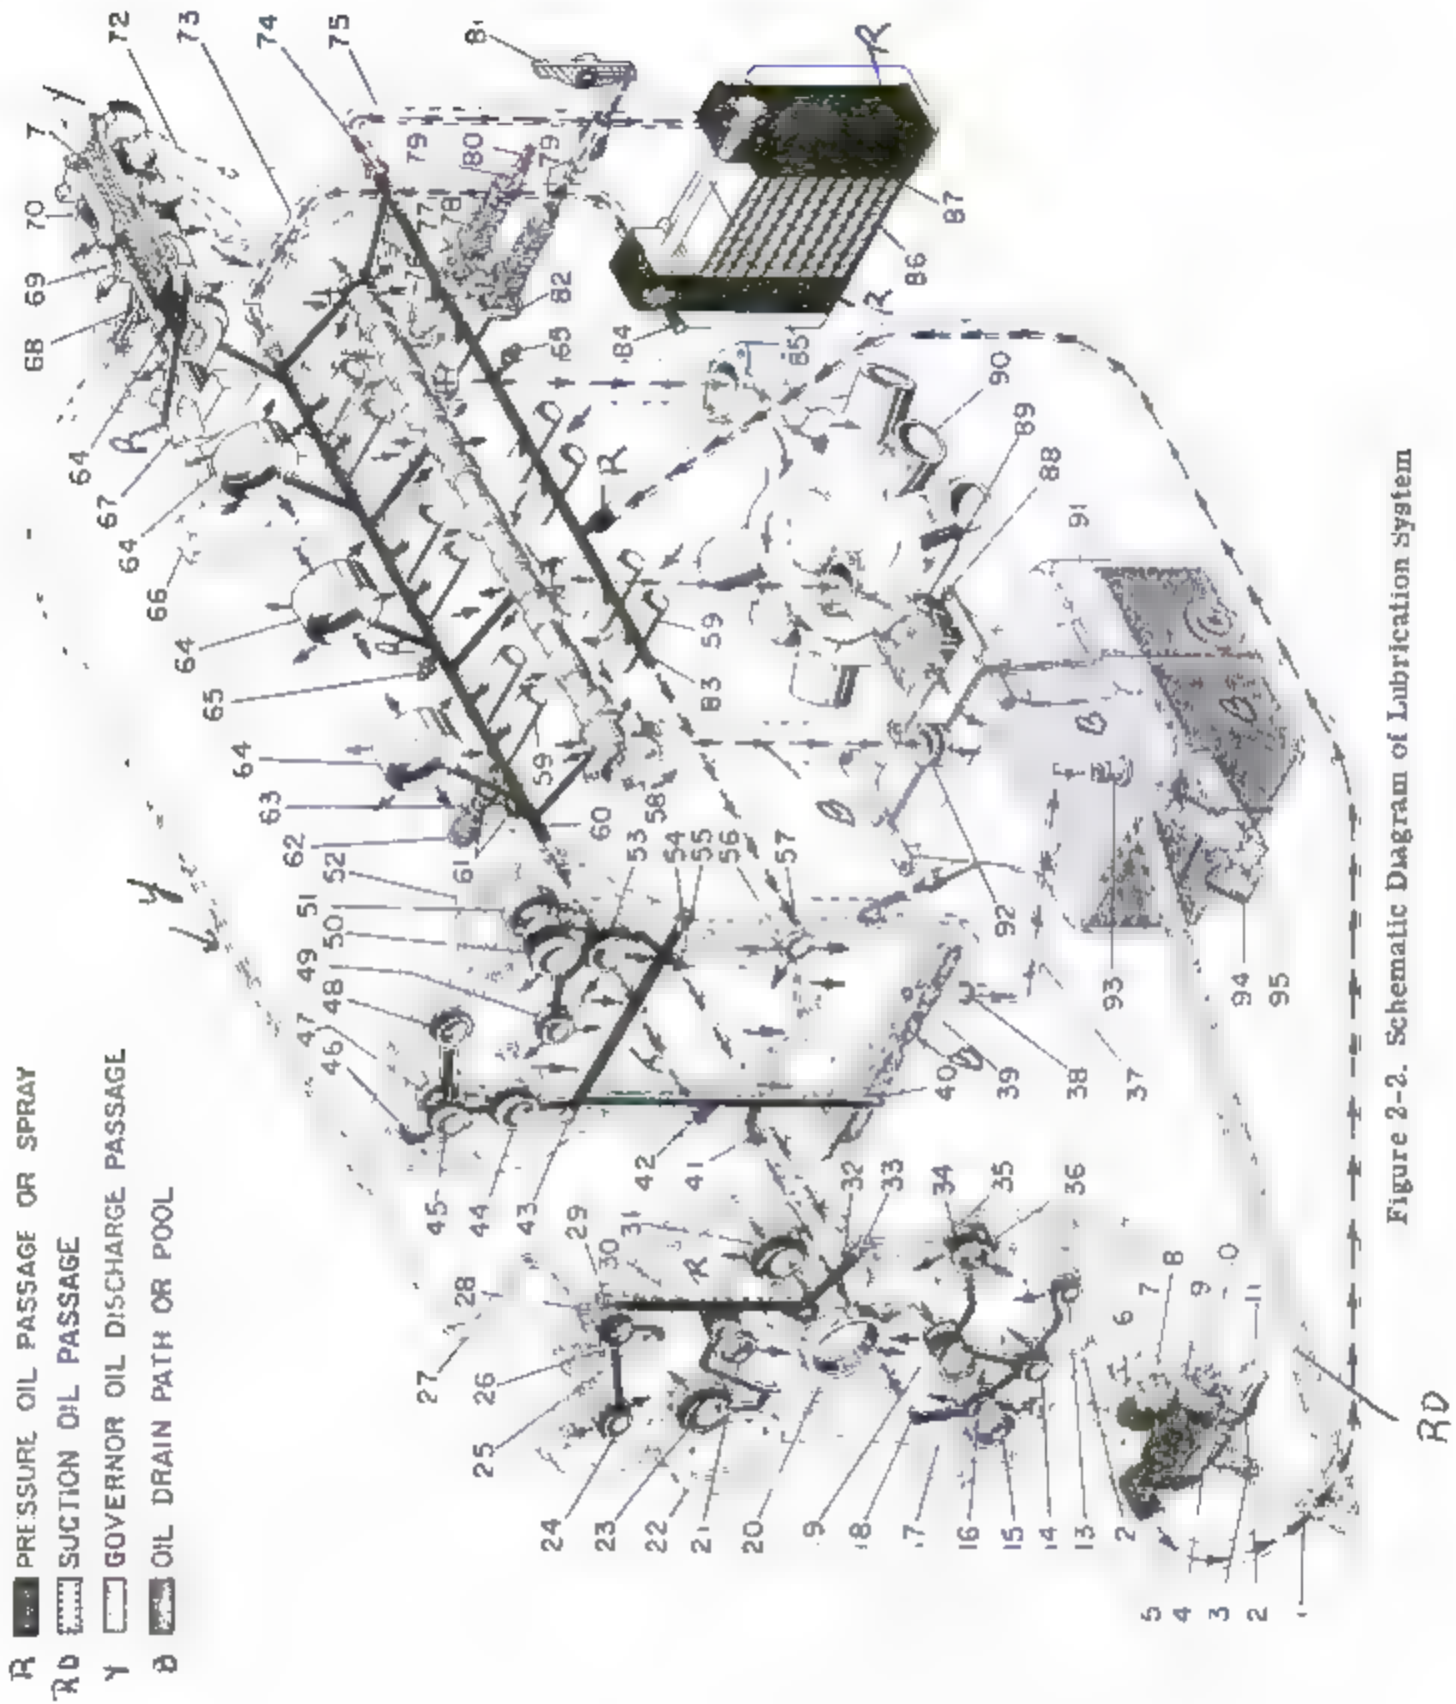
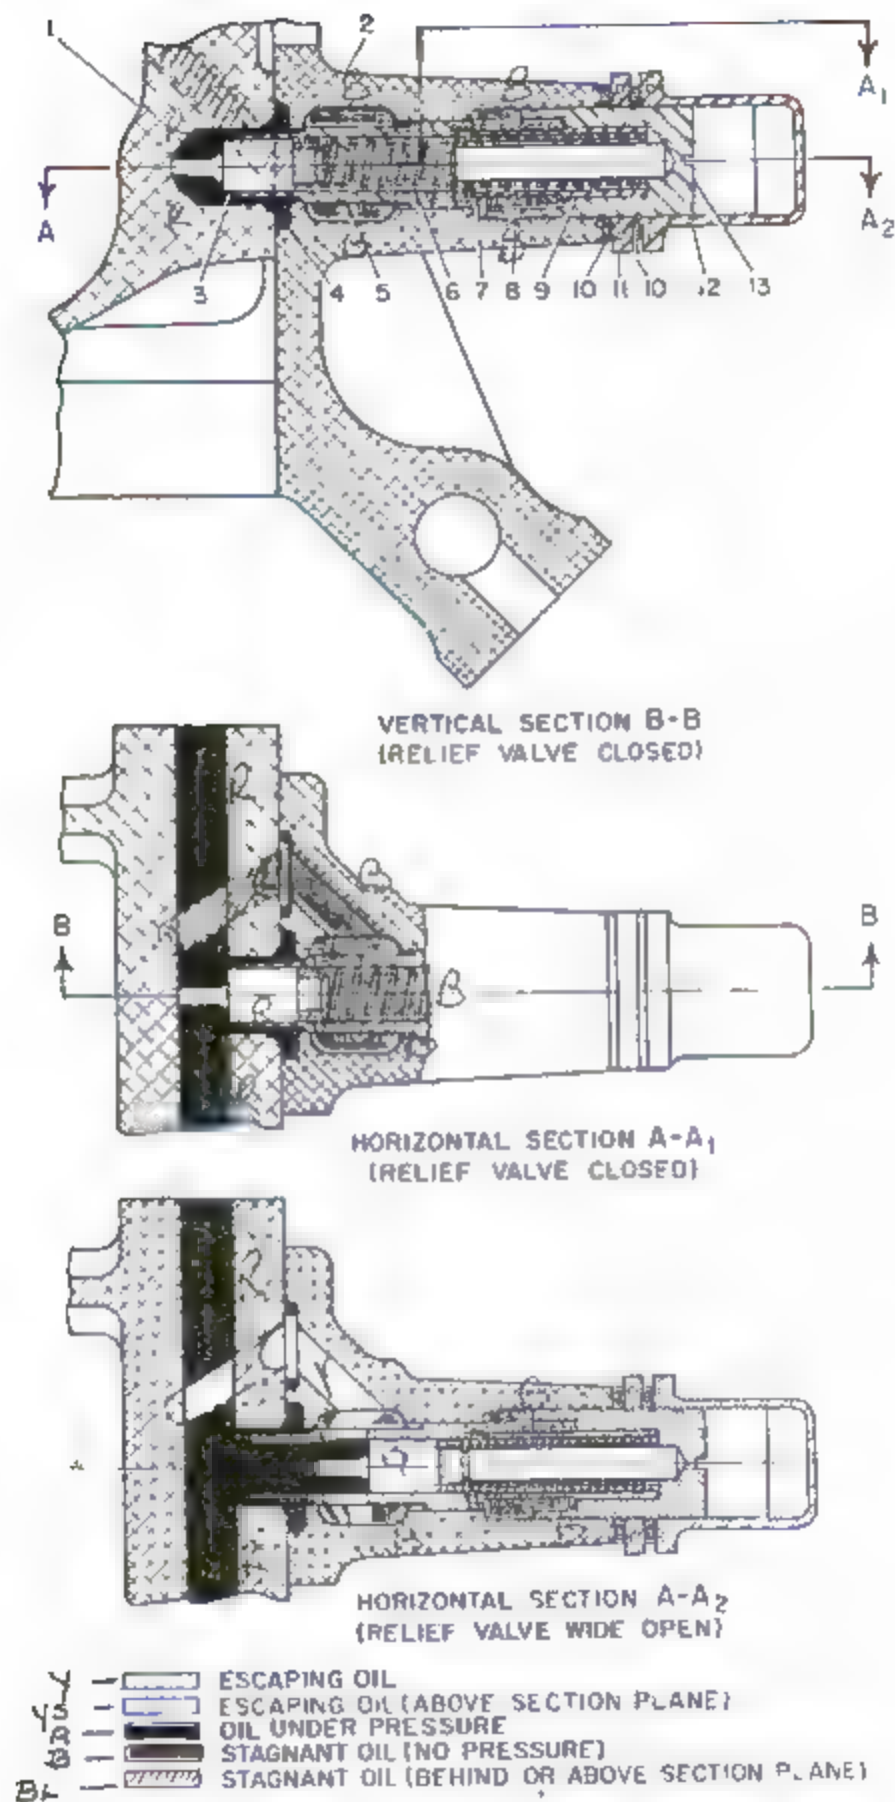

Figure 2-2. Schematic Diagram of Lubrication System
Figure 2-3. Construction and Action of Low Oil Pressure Relief Valve
in the lubrication system. For these reasons, it is important to know where the pressurized oil passages and drain passages are located, through which flanges and connectors they pass, where plugs must be installed and where all oil seals are located. These features are illustrated as well as possible in figure 2-2. In the illustration, unconfined colored arrows represent oil spray and open drainage, while confined arrows show direction of flow through passages. The crankcase, accessory case and oil pump are separated for clarity, and dotted lines, not identified as hoses, connect matching passage ports in the case sections.
2-16. (See figure 2-2.) Oil circulation starts and ends in the oil pump (91). A coarse strainer admits oil to the suction screen assembly (95, connected by a short hose (1), to an adapter (3), through which the oil enters the lower side of the gear chamber in the pump body (7). The oil is carried around and discharged at the top of the gear chamber against the resistance of the closed passage network shown in red, creating pressure throughout this system. It then passes into the cavity sealed at both ends by the filter (9), through the filter to its central outlet at the left end and into a body cavity to which is connected a hose (5) leading to the crankcase. Neglecting friction loss, the pressure is the same everywhere between the pump and the oil cooler (86). A high pressure relief valve assembly (including 2, 4 and 11) is adjusted so that the pressure in this part of the system, as indicated by a gauge connected to a nipple (65) in the right crankcase half, will remain between specified limits to protect the hose (5) and the oil cooler (86). Construction and action of the high pressure relief valve is the same as in the low pressure valve (including 62 and 63) in the left rear engine mount bracket, except that oil passing the high pressure valve is returned to the pump inlet, while oil escaping through the low pressure valve empties into the crankcase cavity, as illustrated in figure 2-3. The low pressure valve is adjusted to maintain a pressure in the left gallery (80) about 15 psi below that in the right side, producing a pressure differential of this amount across the oil cooler, thus assuring continuous oil flow through it. It will be observed that all crankshaft bearings (64, 69), camshaft bearings and valve lifter guides (69) are pressure lubricated. All crankpins receive oil from main bearings through steel tubes in the crankcheeks, like the one shown in the crankshaft front end section. All gear teeth, cam lobes, piston pins and cylinder walls are lubricated by an oil mist sprayed into the case cavities from bearings and bushings. This and valve rocker oil drainage through pushrod housings returns to the pump through three crankcase drain holes, the manifold (90) and its connecting hose (88) and from the accessory case through a nipple (38) and hose (37). When an oil cooler is installed the adapter (74) must be in place to close off the cross passage to the front camshaft bearing. If no oil cooler is used, a plug and gasket must be installed in place of the gallery adapter.
Legend for Figure 2-2
Legend for Figure 2-3